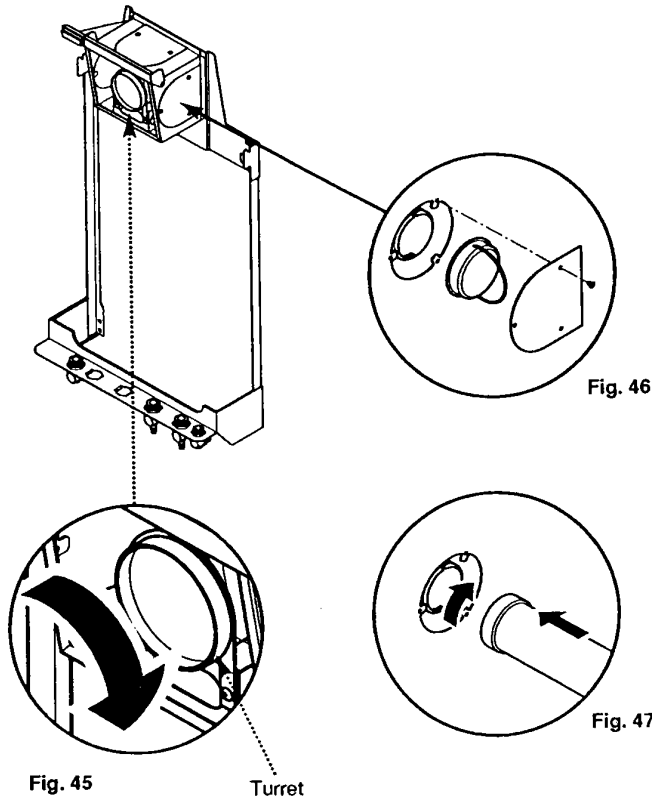

Fig. 46
1. Remove the left or right hand air box blanking plate, as appropriate, from the back plate air box by releasing the three screws (Fig 46).
2. Rotate the turret to face the selected opening (Fig. 45) and remove the side blanking cap by pushing in and turning anti-clockwise to release the bayonet fitting (Fig. 46).